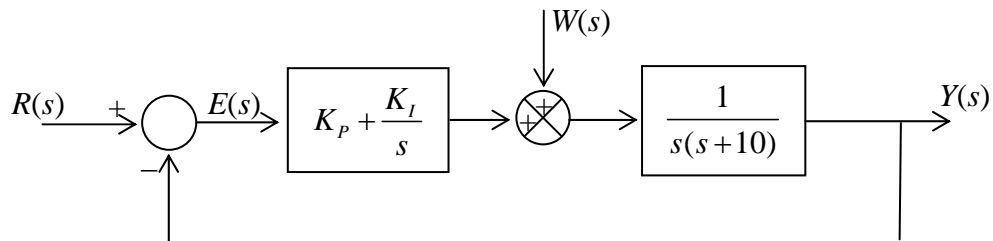

Figure 2a
2. Consider the simplified satellite attitude control problems shown in Figures 2a and 2b, respectively. Determine the effect of K_P and K_I on a step disturbance input.